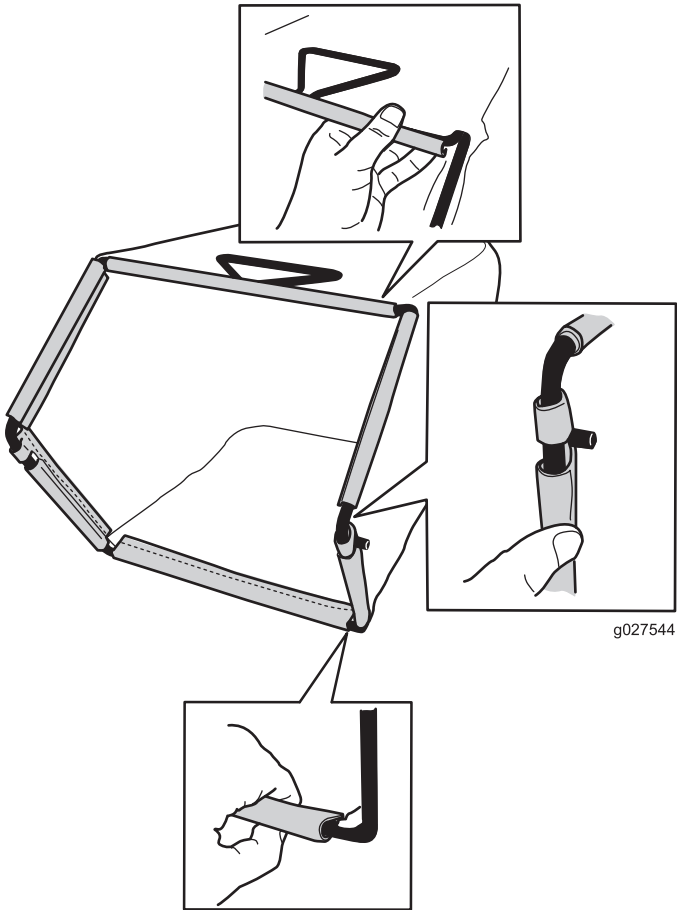

**Figure 6**
1. Slip the grass bag over the frame as shown in Figure 6.
**Note:** Do not slip the bag over the handle (Figure 6).